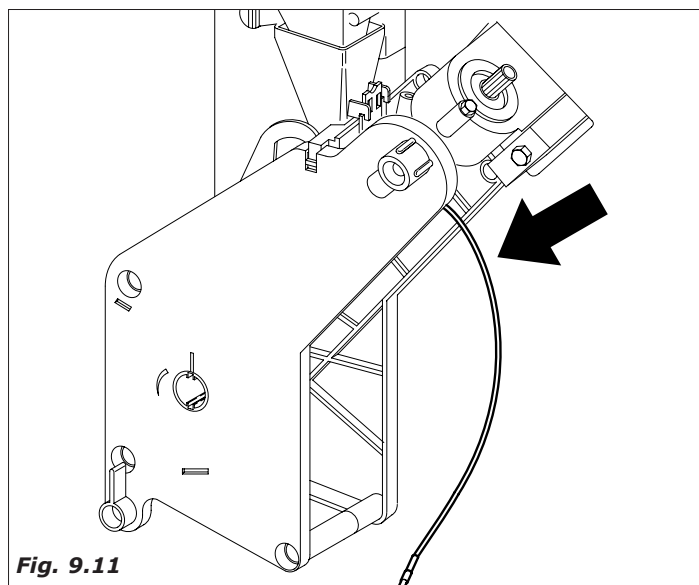
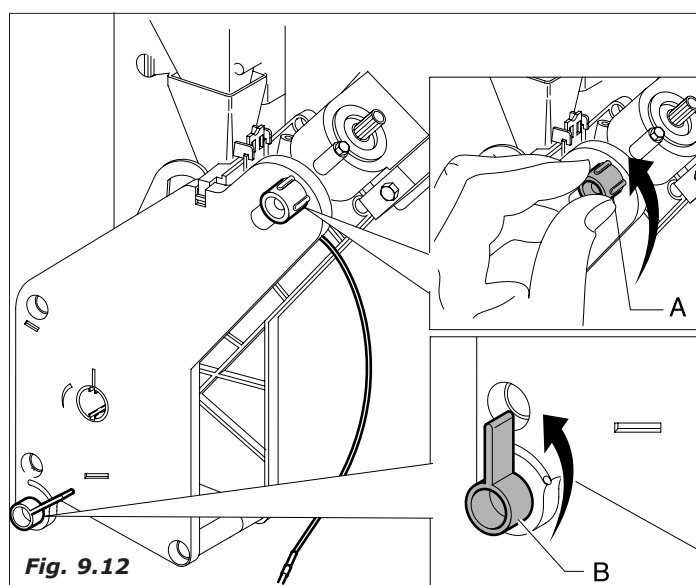

Fig. 9.11
Fig. 9.12
- lift the copper tube and wait for the complete drainage of the tank. (Fig. 9.11)
Then detach the pipe indicated in *Fig. 9.11*, unscrew knob **A**, rotate lever **B** (*Fig. 9.12*) and then remove the entire coffee unit.